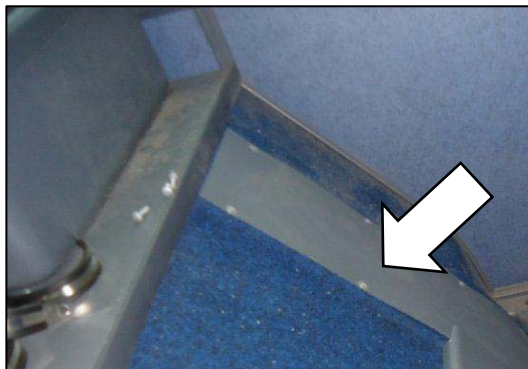

Figure 2
2. Remove the cable loom cover (refer to figure 2).